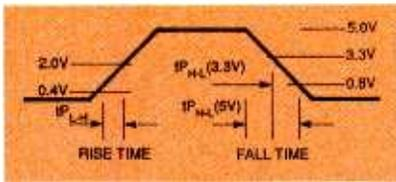

FIG. 1—THERE ARE TWO TYPES OF SWITCHING TIMES: rise time and fall time. Both are shown here.
**Switching times.** Ideally, the transition from one state to another should be instantaneous. In reality, it takes time for the voltage to change from one value to another. In analog designs this is called the slew rate; in digital designs it's called switching time (Fig. 1).